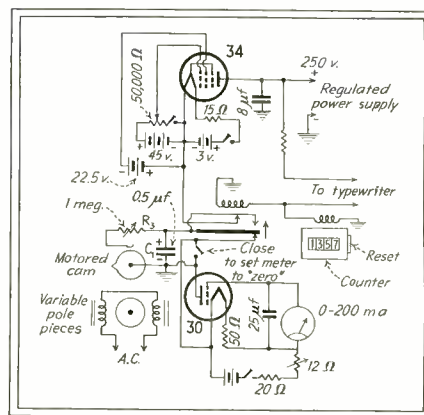

Fig. 1—Circuit of typewriter speed indicator
A wiring diagram of the speedometer circuit is shown in Fig. 1. The schematic shows a current limiting pentode to govern the charging of a fixed condenser, and an electrostatic voltmeter² to read the potential across the condenser. Excepting the contacting relay and motored discharge resistor, the circuit is quite conventional. Each time the relay is operated, condenser C₁ receives a small charge through the circuit formed by the front contacts of the relay. As the speed of the relay armature increases, the charge on the condenser rises. The potential across the condenser is meas-
• Have you found that two transformers with similar frequency response characteristics are not necessarily the same; that high fidelity from an amplifier is not always assured by using transformers with a flat response curve? More is required of an audio transformer to insure the desired performance, and the advanced designs to be used for AmerTran Components Types PR and PS provide this extra something. Two definite advantages of our design refinements are graphically illustrated in Figs. 1 and 2. Other equally important features are (a) negligible third harmonic output, (b) extremely low longitudinal transmission, (c) minimum insertion loss, (d) completely balanced coil structure, and (e) advanced mechanical design. Furthermore, Type PS Components offer the ultimate in complete electromagnetic shielding.
• Left FIGURE 1
Fig. 1—A transformer's performance is generally measured with the primary operating on its image impedance (curve 2) but in actual practice this condition does not always exist. AmerTran Types PR and PS offer remarkably uniform performance with input impedance varying over a wide range, as shown by curves 1 and 3.